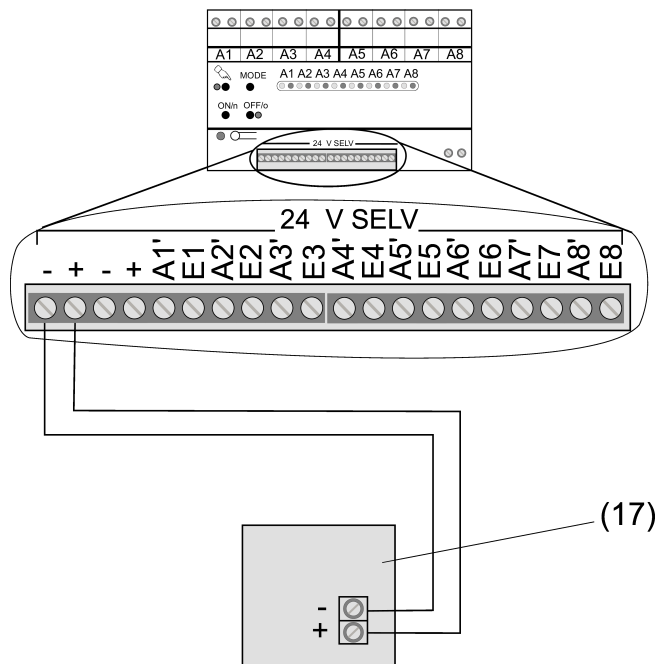

Figure 6: Connection example of sensor module or push-button sensor module
- Establish the connection according to the connection example (see figure 6).